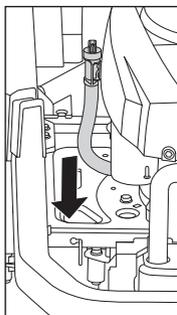

Fig. 30A
3. Locate the oil drain sleeve and pull it downward to remove it. (Fig.30A)